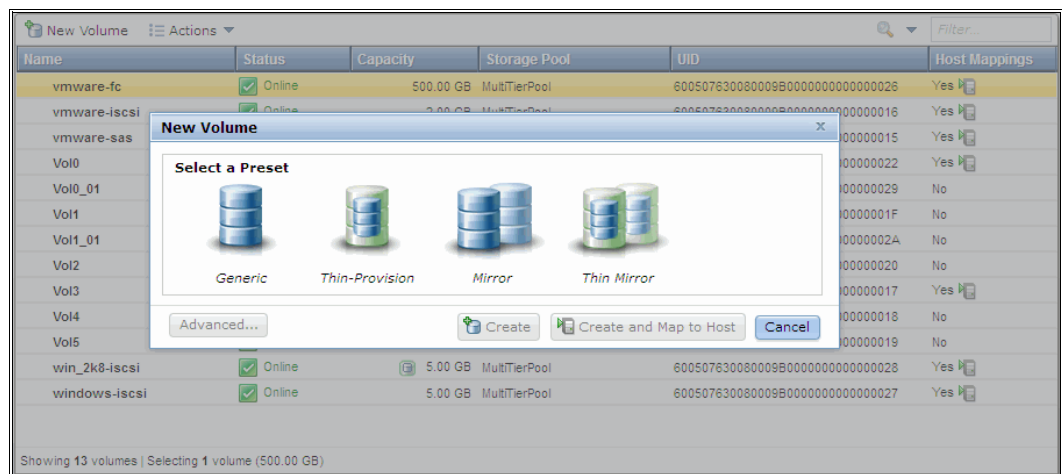

Figure 5-3 New Volume window
- If this is a first-time setup, there are no volumes listed. Click **New Volume** in the upper left of the window. The New Volume window opens, as shown in Figure 5-3.